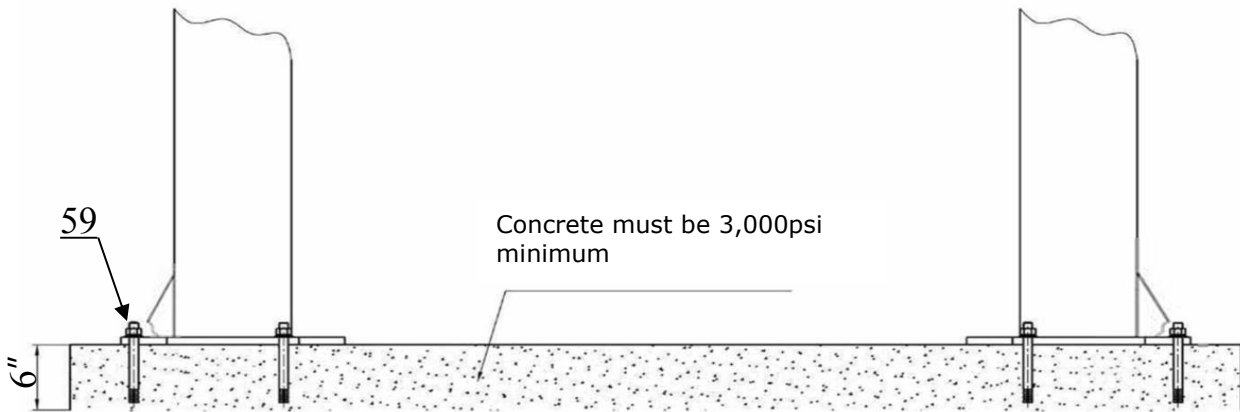

Fig. 6
B. SPECIFICATIONS OF CONCRETE (See Fig. 6)